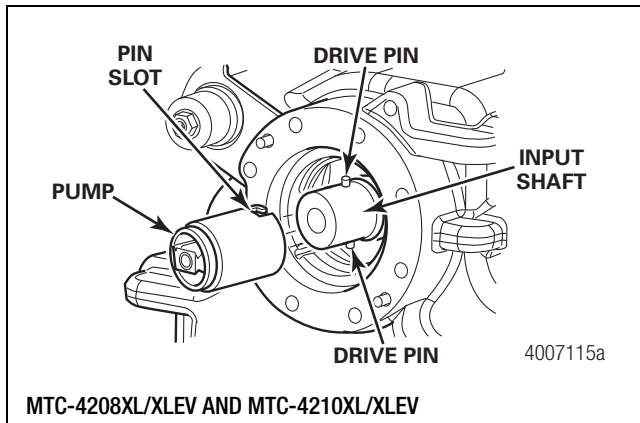

Figure 6.42
- Place the pump onto the input shaft. Rotate the pump assembly to engage the drive pins. Ensure that the pump is correctly seated. Leave 3/16-inch (4.763 mm) of the drive pins extending from the input shaft. Figure 6.42.